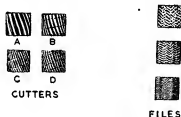

Fig. 2. Four tooth pitches of cutters and three of rotary files
A large range of files, cutters, rasps, wire brushes, emery bobs, grinding wheels, polishing mops and sanding discs is available, and these are supplied in hundreds of shapes and sizes, making it possible to carry out all kinds of work. The rotary cutters are much used on aircraft work for cutting duralumin, aluminium, electron, and all kinds of non-ferrous alloys. The various tooth pitches are shown in Fig. 2. (A) is used on soft alloys when removing large cuts, (B) is the
finishes are shown in Fig. 2. Rasps are used for working in wood and other soft materials. These are supplied in two cuts, rough and smooth; an example of the rough cut is shown in Fig. 3. Cutters, files and rasps are supplied in dozens of shapes including tapers, cones, balls, domes and parallels amounting to hundreds of variations, some complete with spindles and others which screw on to the spindle, as shown in Fig. 3.